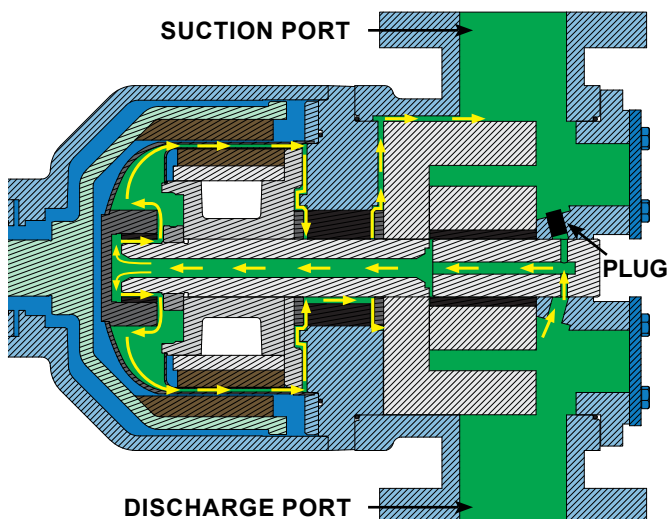

FIGURE 17
11. Ensure pipe plug is installed in the hole on the suction side of the head, at the base of the idler pin. Ensure the hole in the discharge side is unobstructed. See **Figure 17** on page 10.
Process fluid is generally fed to the hollow shaft and idler pin from the discharge side of the pump. Fluid is pushed into the canister bushing and around the inside of the canister. Then the fluid flows through the thrust washers and adaptor plate bushing interface back to the suction side of the pump. When the pump is operated in the opposite direction, the fluid flow is reversed, see **Figure 17**.